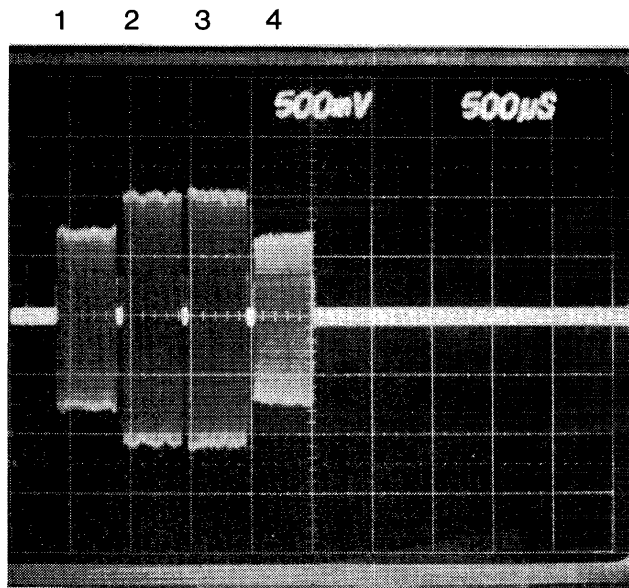

Figure 2-9
- D. Observe the following pattern. Figure 2-9 depicts an optimum head alignment of zero minutes of azimuth error. This means that the Head Carriage Assembly is perpendicular to the track being read, Track 76. Bursts 1 and 4 are of equal amplitude; Bursts 2 and 3 are of equal amplitude.